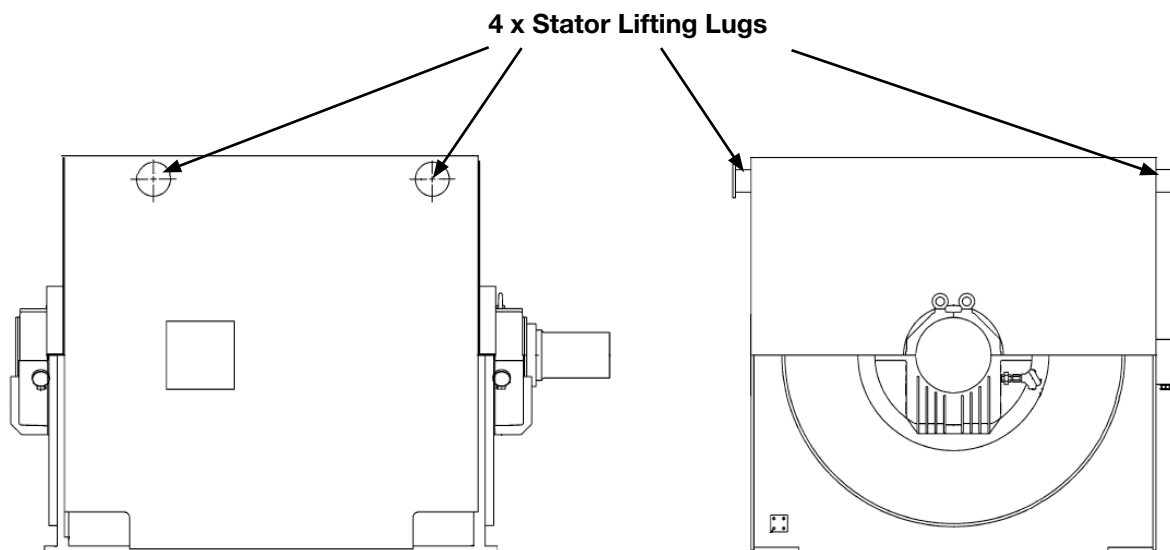

Figure 6-1: Handling of the Motor
- Lift the stator using all 4 lifting holes provided and shown in Figure 6-1.